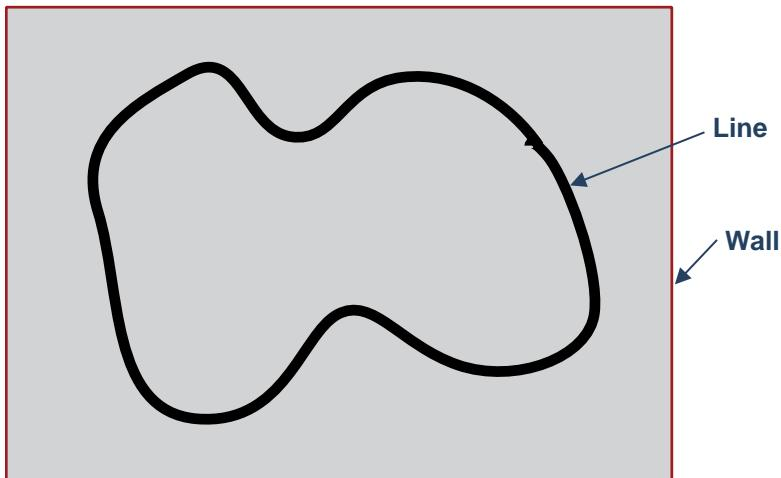

Figure 2. Create a robot explorer that follows a line.
If your robot has a line sensor and the bump sensors, you could create a line follower that races along a line, and uses the walls to detect when it has strayed far from the line, see Figures 2 and 3. Knowing which bump sensors were triggered tells you the angle it hit the wall. Knowing the angle allows you to back up, turn around and head back to the center of the room, searching for the line again.
*Construction approach 2:* Another approach to building the arena is to use individual 2 by 4 pieces of wood cut to specification. The mazes shown in Figures 2 through 11 can be built with pieces of 2 by 4. Wood this size is not heavy enough to be placed on the floor without fastening the pieces together. So these pieces will need to be screwed or hammered together, which is why the designs all have 90 degree angles.